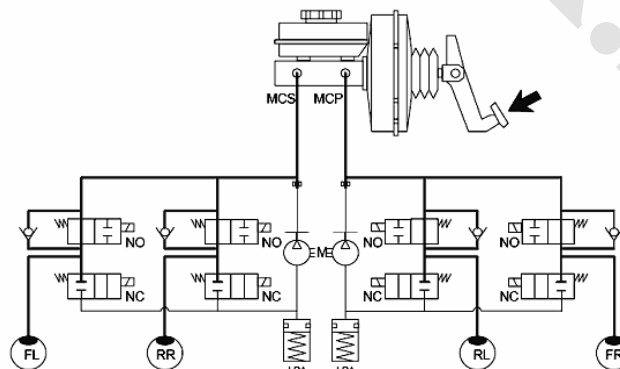

Fig. 3-3
1. Operating condition of regular brake (Table 3-1 and Fig. 3-3).